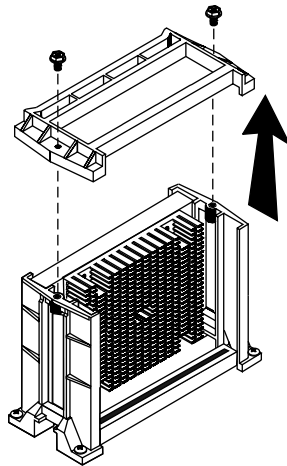

Figure 9: Removing the Lock Bar
3. Wearing an anti-static wristband grounded to the system chassis, remove the lock bar from the processor support. See Figure 9.